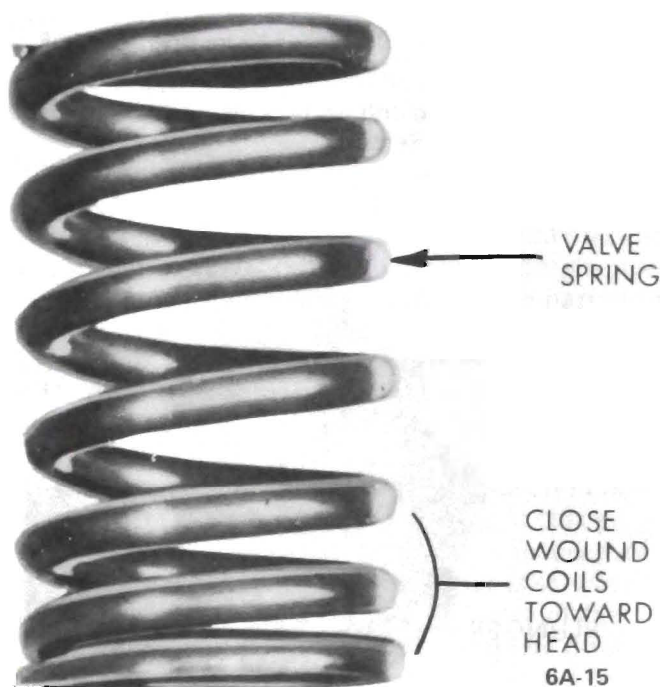

Figure 6A-15 - Valve Spring (350 cu.in.)
14. Install valve springs on the 350 cu.in. and on 455 cu.in. Riviera G.S., with closely-wound coil toward the cylinder head. See Figure 6A-15.